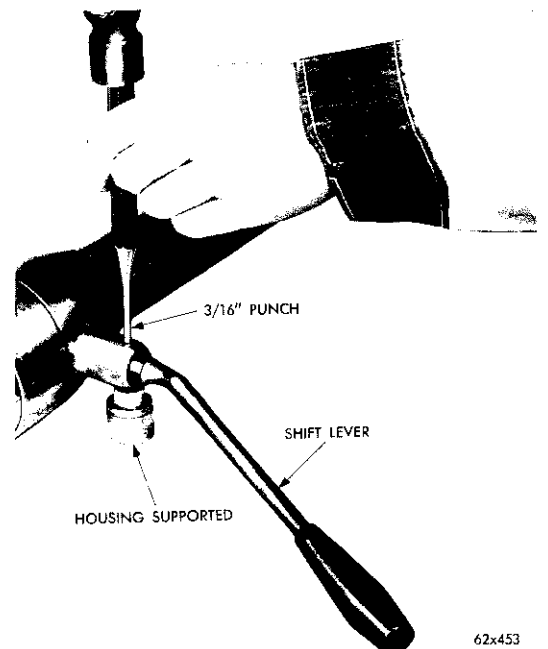

Fig. 8—Removing Shift Lever Pivot Pin
(9) While supporting the gearshift housing in the area around the shift lever pivot pin, drive out the pivot pin, using a $\frac{3}{16}$ " punch, and remove the shift lever (Fig. 8).
(15) Position the gearshift lever in the shift lever housing so it engages the hole in the shift tube plate with the pin hole aligned.
(16) Support the jacket tube housing in the area around the pin hole (Fig. 8) and drive the pivot pin in flush with the housing.